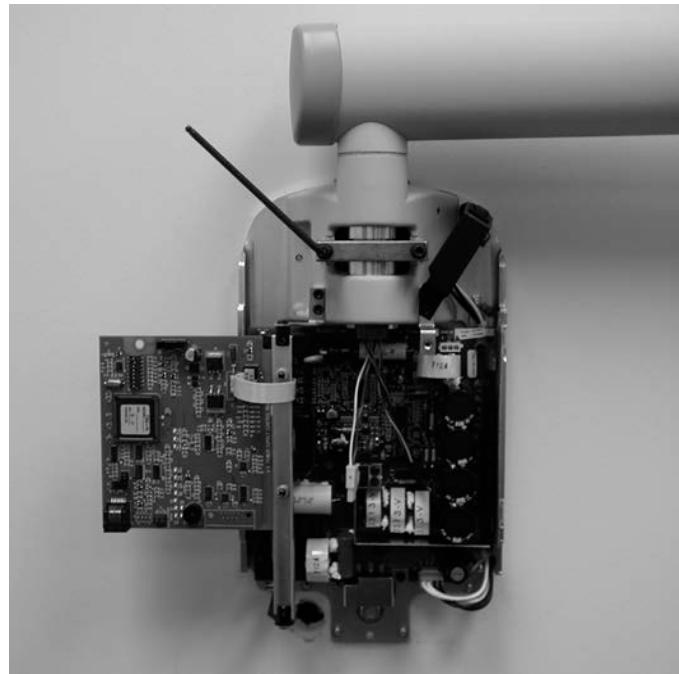

Figure 94
5. Using a 4 mm Allen wrench, as shown in *Figure 94*, tighten the screws equally to apply adequate braking to the pivot post so that Horizontal Arm begins to move after the Articulating Arm.